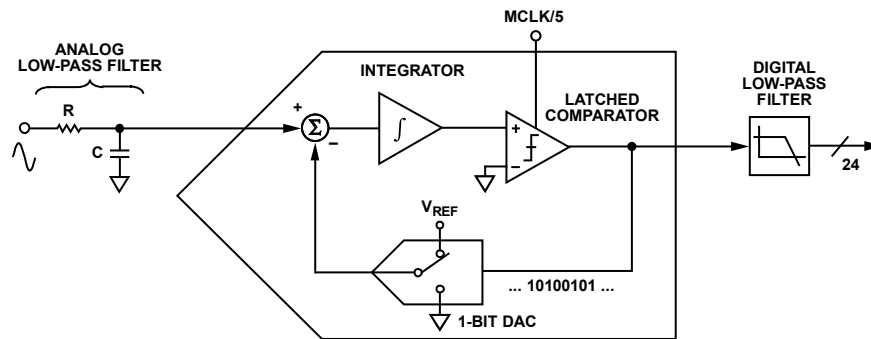
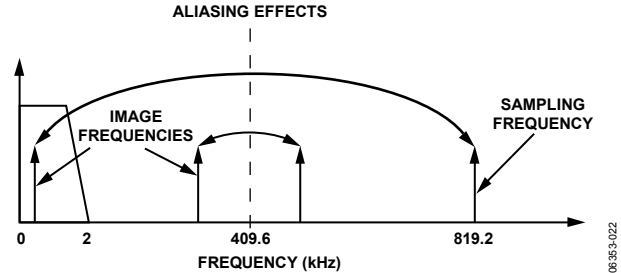

Figure 43. First-Order  $\Sigma$ - $\Delta$  ADC
Figure 44. ADC and Signal Processing in Current Channel Outline Dimensions
For simplicity, the block diagram in Figure 43 shows a first-order  $\Sigma$ - $\Delta$  ADC. The converter is made up of the  $\Sigma$ - $\Delta$  modulator and the digital low-pass filter.
Figure 43 also shows an analog low-pass filter (RC) on the input to the modulator. This filter is present to prevent aliasing, an artifact of all sampled systems. Aliasing means that frequency components in the input signal to the ADC, which are higher than half the sampling rate of the ADC, appear in the sampled signal at a frequency below half the sampling rate. Figure 44 illustrates the effect. Frequency components (the black arrows) above half the sampling frequency (also known as the Nyquist frequency, that is, 409.6 kHz) are imaged or folded back down below 409.6 kHz. This happens with all ADCs regardless of the architecture. In the example shown, only frequencies near the sampling frequency (819.2 kHz) move into the band of interest for metering (40 Hz to 2 kHz). This allows the use of a very simple LPF (low-pass filter) to attenuate high frequency (near 819.2 kHz) noise and prevents distortion in the band of interest.
For conventional current sensors, a simple RC filter (single-pole LPF) with a corner frequency of 10 kHz produces an attenuation of approximately 40 dB at 819.2 kHz (see Figure 44). The 20 dB per decade attenuation is usually sufficient to eliminate the effects of aliasing for conventional current sensors. However, for a di/dt sensor such as a Rogowski coil, the sensor has a 20 dB per decade gain. This neutralizes the -20 dB per decade attenuation produced by one simple LPF. Therefore, when using a di/dt sensor, care should be taken to offset the 20 dB per decade gain. One simple approach is to cascade two RC filters to produce the -40 dB per decade attenuation needed.